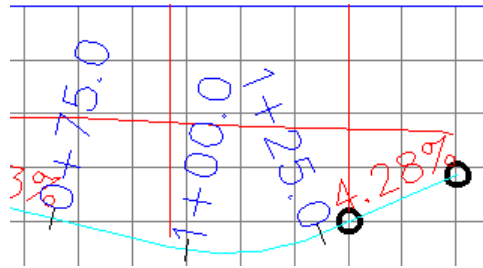

Figure 6-68 The major stations at the specified increment
5. Choose the **OK** button to close the dialog box; the labels of the label set are displayed in tabular format in the **Profile A (1)** dialog box.
7. Choose the **OK** button to close the **Profile Labels - Profile A (1)** dialog box. You will notice that all major stations are labeled at an increment of 25.000 in blue color with a precision of **0.1**, as shown in Figure 6-68.